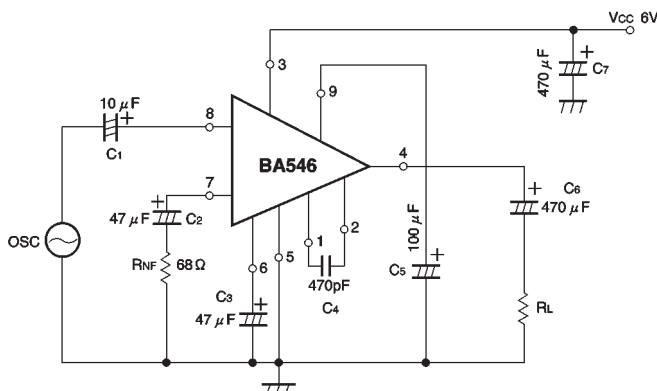

Fig. 1
- 2) Good low voltage characteristics. Begins operating at less than 2V (see Fig. 1).
● Attached components (see Fig. 1)